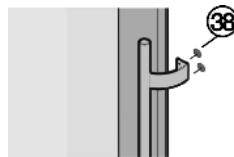

Fig. 35
- ▶ Take the handle out of the packaging of the ceiling protection and fit it to the inside of the door with 4 screws *Fig. 35 (38)*.